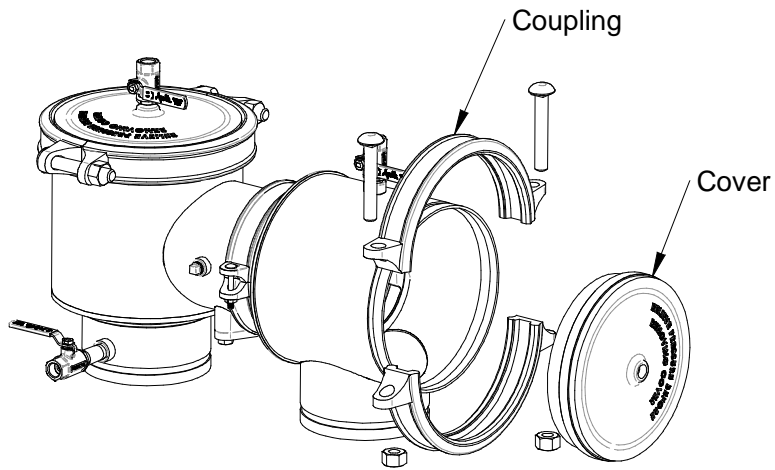
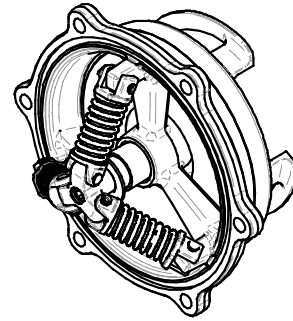

Figure 6
Figure 7
2. Lift off the cover. See Figure 6.
3. Remove the six (6) nuts for 8" valves / eight (8) nuts for 10" & 12" valves with a 3/4" socket and ratchet.
4. Slide the entire check module off the body studs and remove from body (see Figure 7).